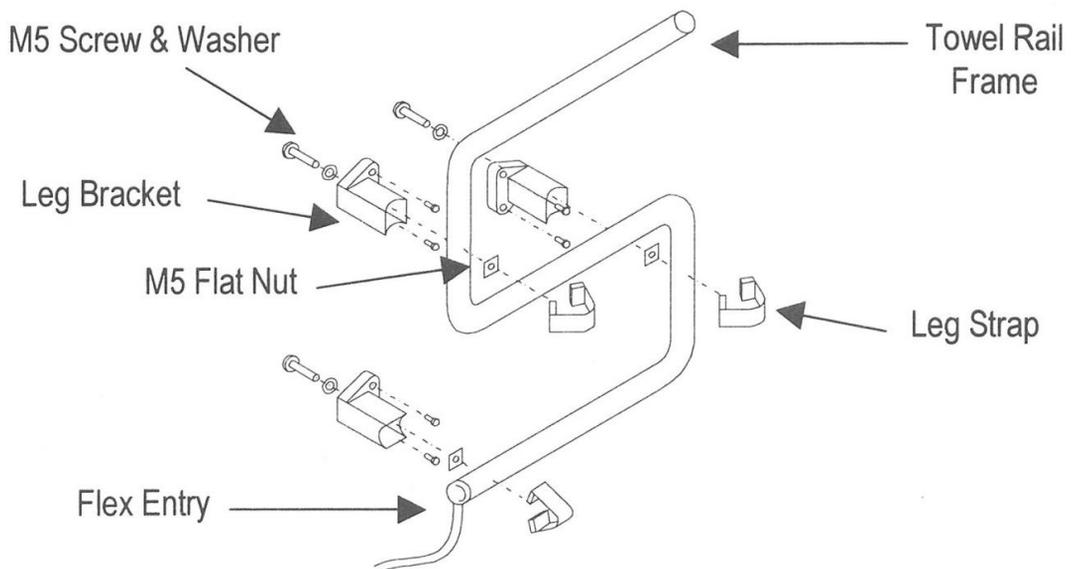

Figure 1 – Wall Mounted Towel Rail
- Fit the leg brackets and straps loosely to the frame, in the positions shown in figure 1.